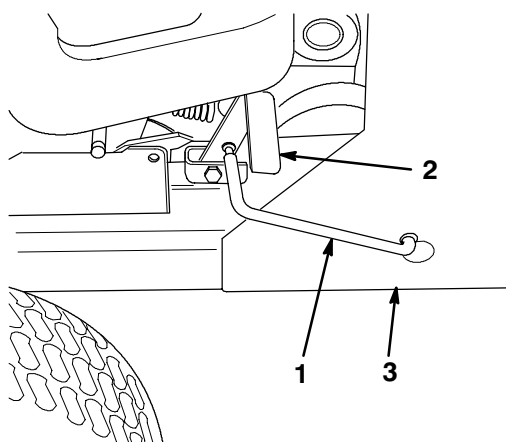

Figure 22
2. Disconnect the pulley housing from the snowthrower frame by pulling the spring tension link lever forward until you have enough slack to disconnect the link (Fig. 22).